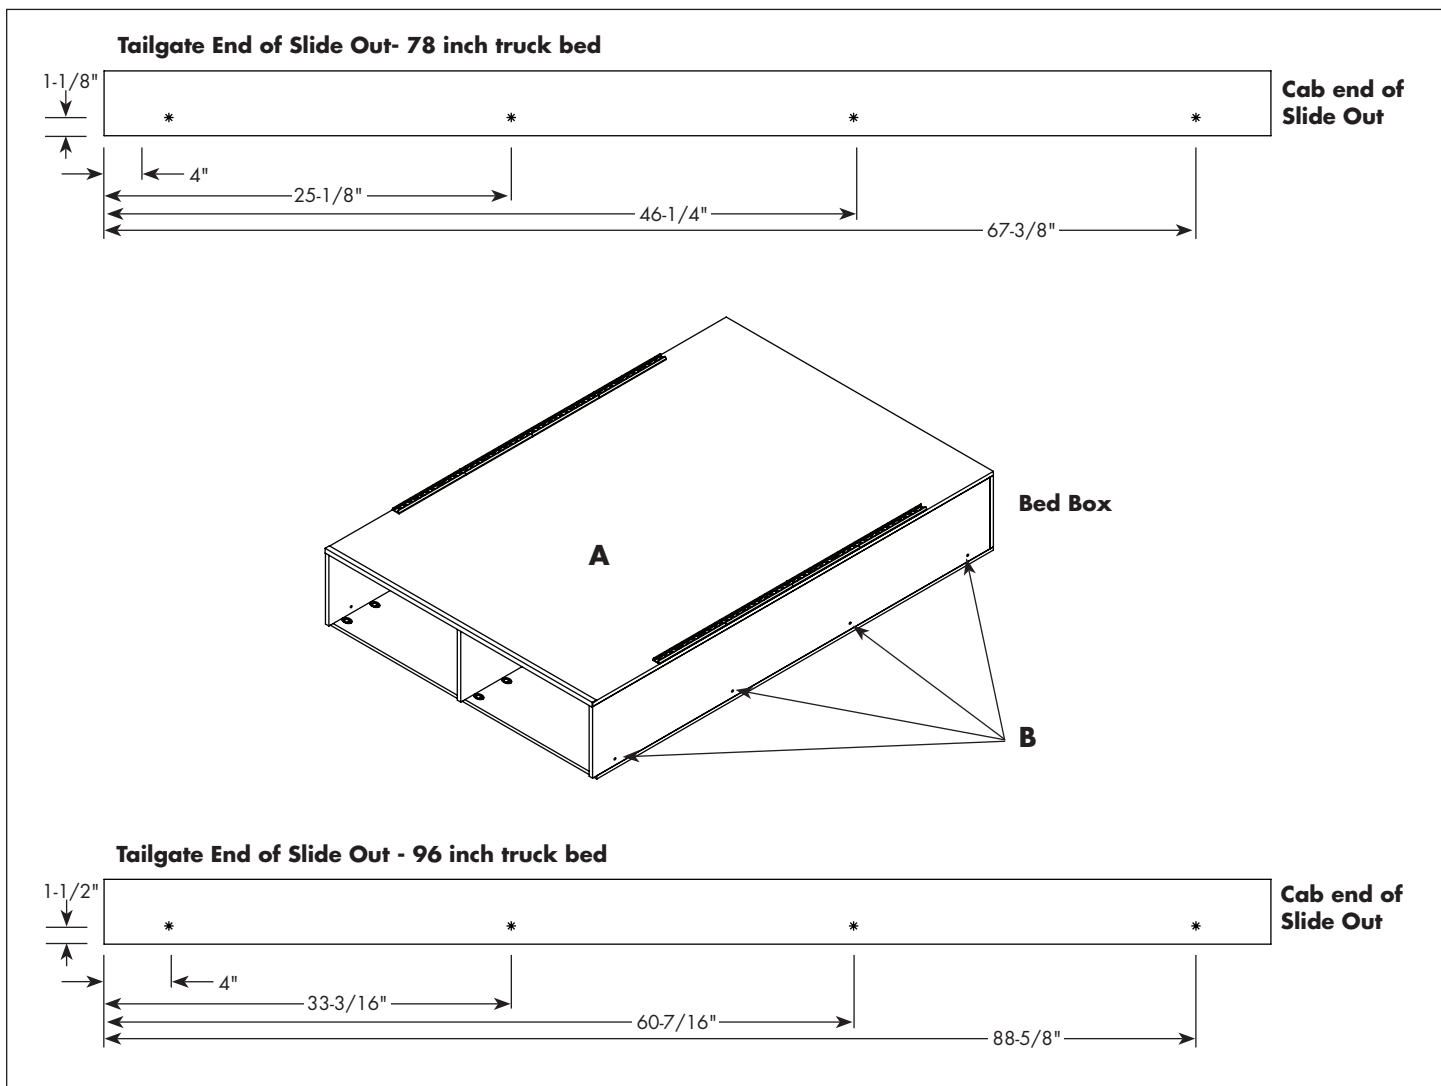

Figure 2 - Slide Out side rail drill points and Bed Box mounting locations (B)
4. Use a center punch to mark the location of holes. Drill holes through Slide Out side rails with 1/4 inch drill bit at specified locations (see Figure 2).